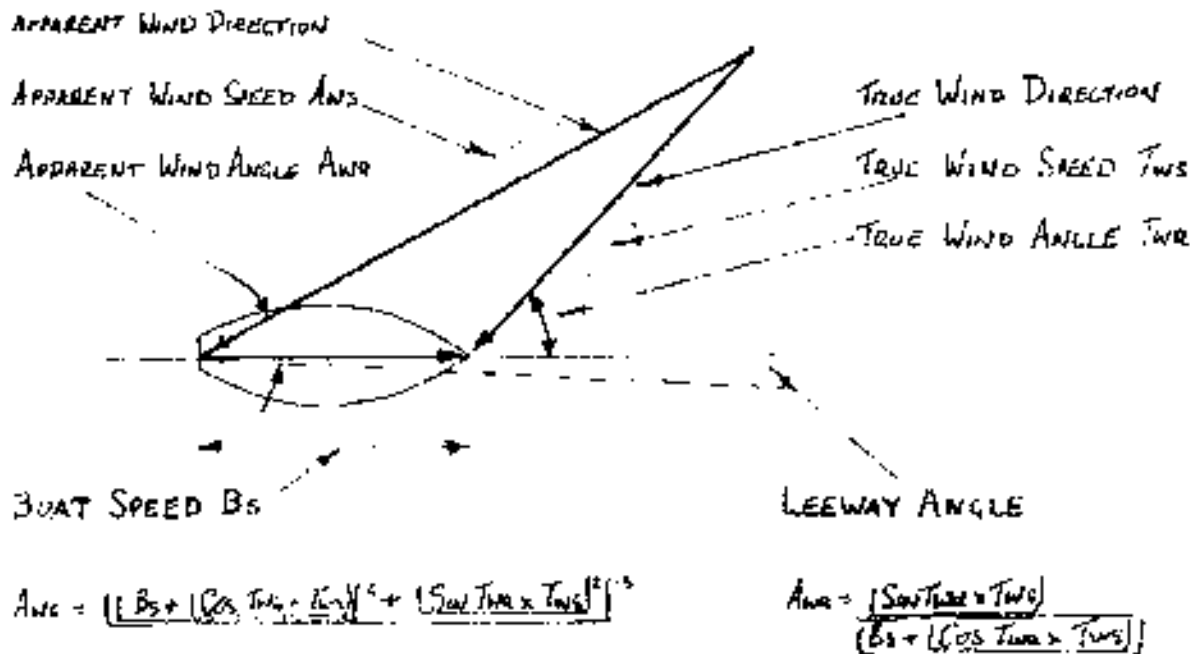
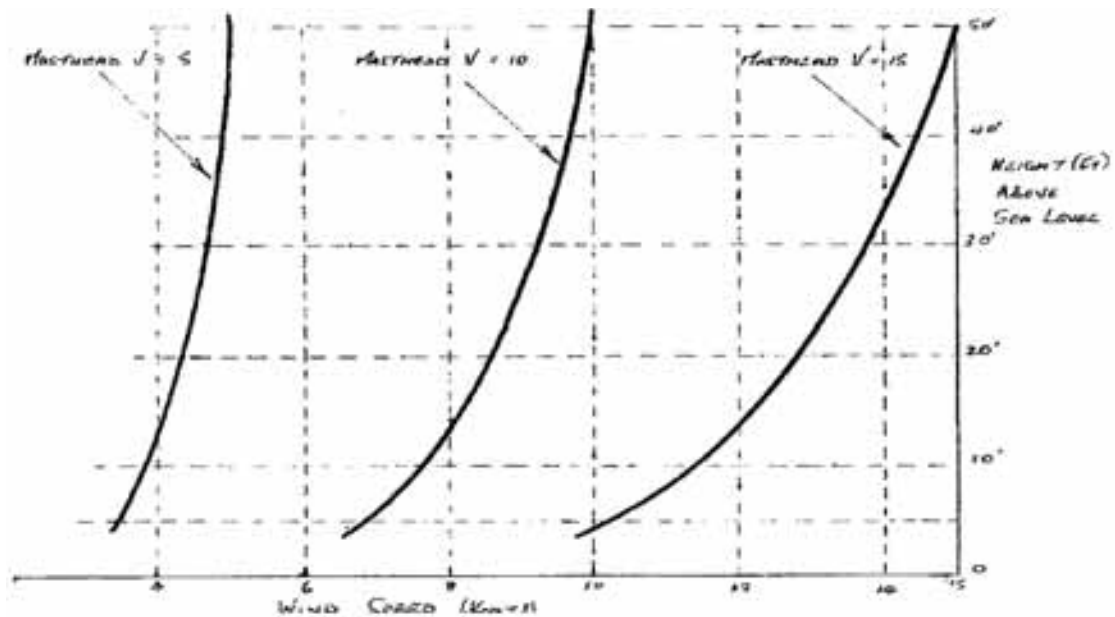

FIG 1. VECTOR DIAGRAM WIND SPEED / BOAT SPEED
Fig 2: Wind gradient at different windspeeds
The angle between the true wind direction and that in which the boat is travelling is called the True wind angle (TWA) - in practice this angle needs to be corrected for the leeway (generally between 2-4 deg). The vector diagram in Fig 1 shows that provided the Boat Speed (S), the True wind speed (TWS), and the True wind angle (TWA) are known, then the Apparent wind speed (AWS), and the Apparent wind angle (AWA) can be found. However instead of drawing a diagram each time, the values for the apparent wind speed and angle can be calculated using the equations as shown.
Wind speed increases with height generally as shown in Fig 2; the calculations as given in Fig 1 must be repeated for each particular sail height chosen. Several equations exist to calculate wind speed at different heights. One equation derived from measurements taken during the Gimcrack tests gives the equation: -